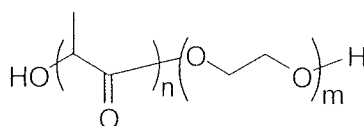

Figure 2
5. An amphiphilic diblock copolymer is formed from polylactic acid (PLA) and polyethylene glycol (PEG) for use as drug delivery agent as shown in the following Figure 2:
- [b] Critical micelle concentration (CMC) is the minimum amphiphilic concentration required for the formation of micelle. Predict with reason whether the CMC is increased or decreased if the value of n , copolymer in Figure 2 copolymer repeat unit is increased.